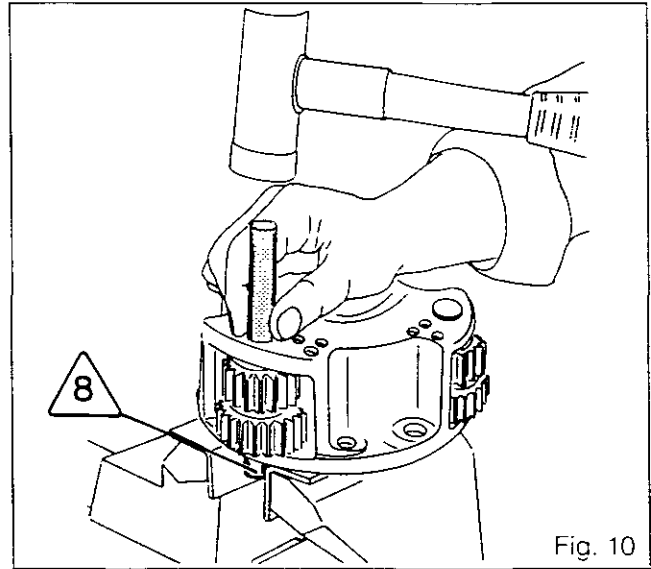

Fig. 10
28. Drive out spindles /8\ with a drift and a mallet (Fig.10).
30. Take out needle-roller bearings (11) and (16), spacers (14), and washers (10) and (17).